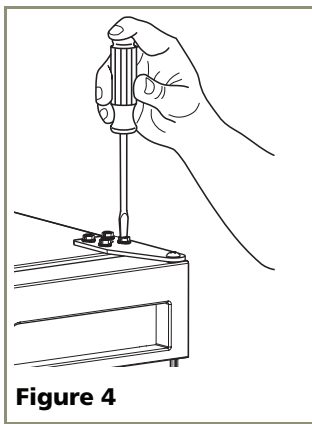

Figure 4
1. Remove top hinge from cabinet (four screws). See **Figure 4**. Hold door to keep it from falling.